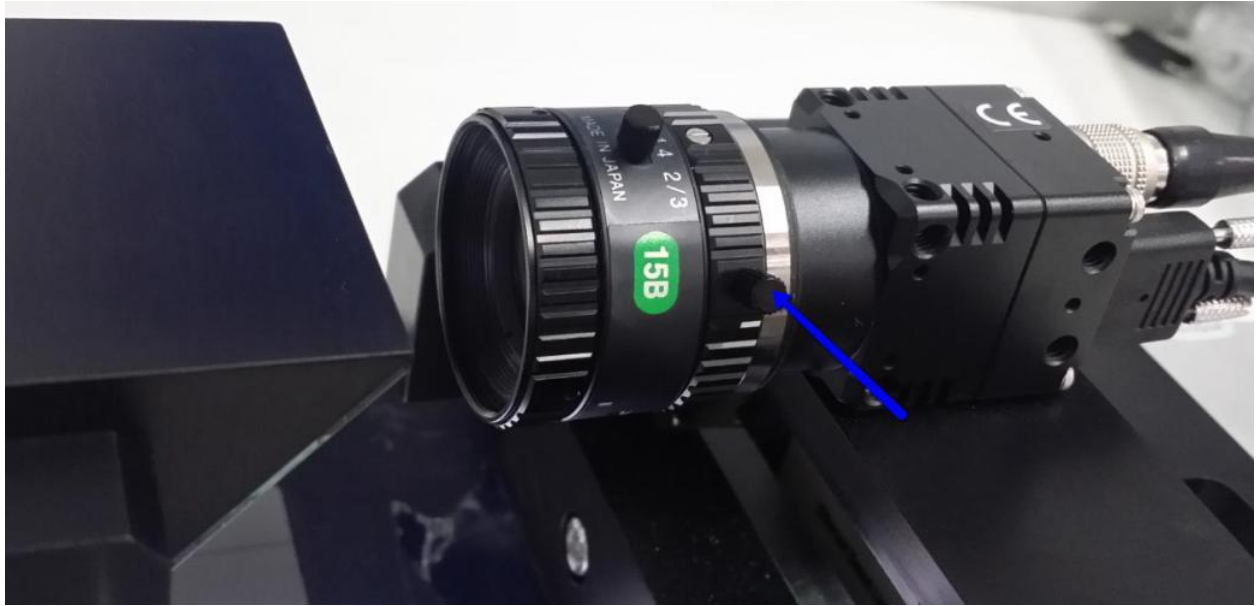

Figure 57 Tiny Knob at Optical Camera
58. Loosen the “Tiny Knob” at Optical Camera as below Figure 57.